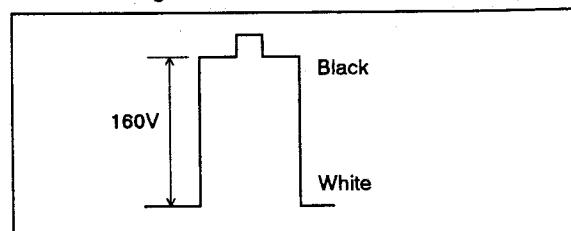

Fig. 35
5. Adjust R3434 (B drive) to achieve 160Vp-w as shown in Fig. 35.